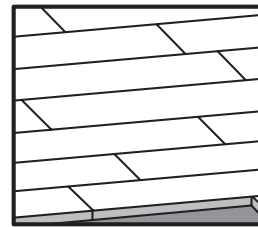

FIGURE 1.1 (CORRECT)
**STEP 4:** Cut off the last piece in your starting row, leaving proper expansion space from the wall 12 mm (1/2") from the wall and use it as your 1st piece or starter board for the 2nd row. It is best to not use a piece under 150 mm (6") as they tend to move out of position. Continue on each row, engaging the groove into the tongue along the side 1st, then the end to be engaged 2nd. Avoid if possible, end joint cluster by staggering ends by twice the plank width or approximately 212 mm (8 1/2") on 4 1/4" wide flooring. If any adhesive comes in contact with the face of planks, use adhesive remover before it dries. Figure 1.1 and 1.2